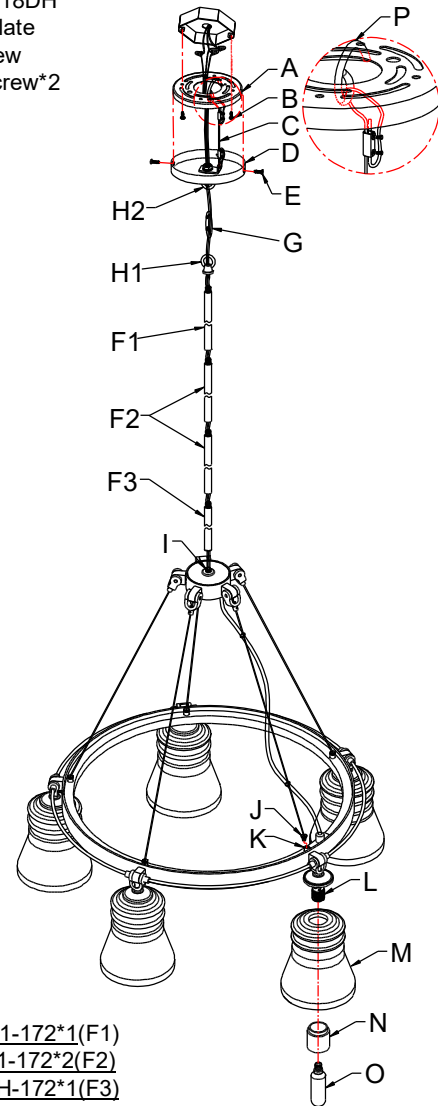

Fig. 2
CONNECTING THE WIRES (Fig. 2)
7. Connect the electrical wires as shown in fig 2, making sure that all wire connectors are secured. If your junction box has a ground wire (green or bare copper), connect the fixture's ground wire to it. Otherwise, connect the fixture's ground wire directly to the mounting plate (A) using the green screw provided.